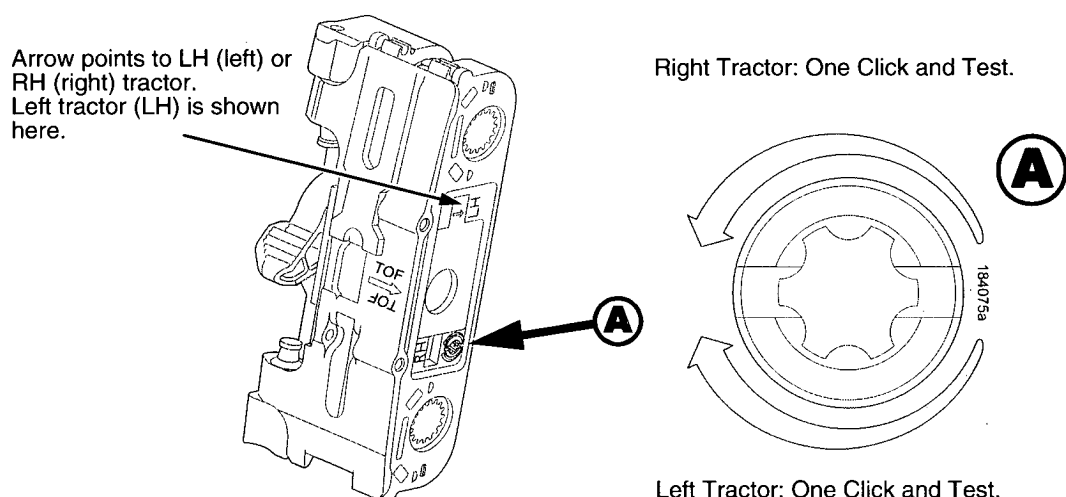

Figure 38. Tractor Belt Tension Adjustment
3. Carefully note the initial position of the adjustment screws. (Figure 38.)
4. On the inner side of the left tractor, use a Torx T-10 driver to rotate the adjustment screw one detent to increase tension. On the inner side of the right tractor, use a Torx T-10 driver to rotate the adjustment screw one detent to increase tension. (See Figure 38.)